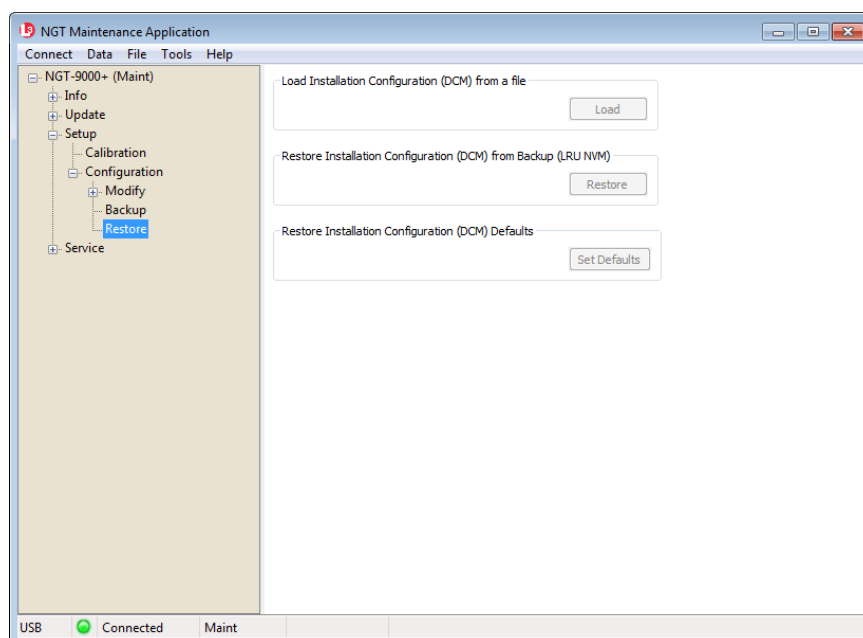

Figure 4-7: Lynx MAT –Configuration - Restore
This procedure is used to automatically fill in the configuration options from a backup file. See Figure 4-7. Perform the following procedure using a MPC and Lynx MAT. This procedure assumes that the unit is in Maintenance Mode and the MPC is interfaced to the unit using either the USB.
1. From the Lynx MAT select Setup → Configuration → Restore. See Figure 4-7.